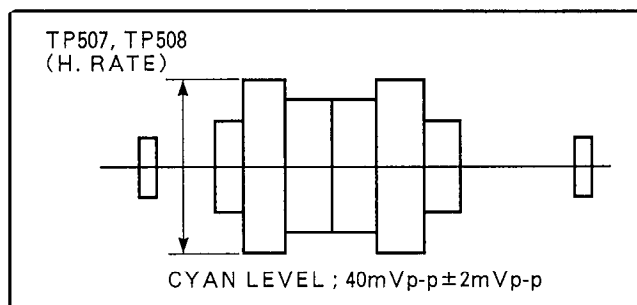

Fig. E3
3. Adjust VR3003 so that the cyan level is $40\text{mV} \pm 5\text{mVp-p}$. (Refer to Fig. E3)